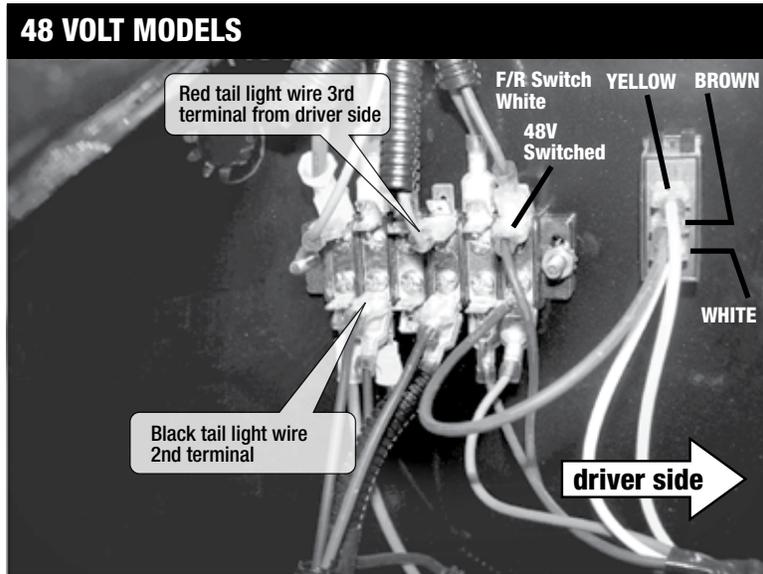

fig. 8
**8b.** If you have an Electric (48V) model, plug the red and black wires into the terminal block as shown in **figure 8**.